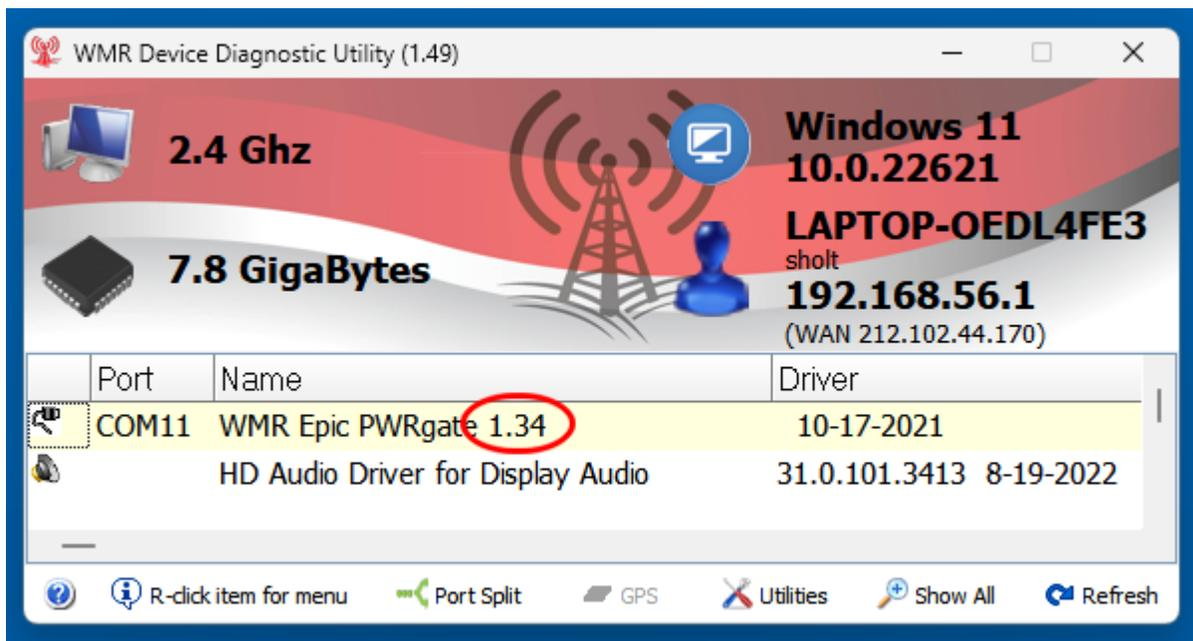

Figure 8
10. To check the firmware was successfully updated, click the refresh button in the West Mountain Radio diagnostic program and the current version of the Epic will be displayed (figure 8).